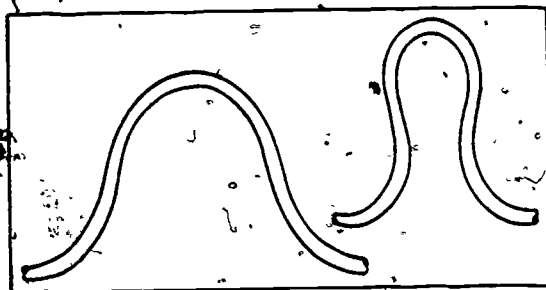

Figure 3-5. Expansion loops.
**Expansion loops.** Expansion loops are installed in copper tubing water supply systems to allow for vibration, and expansion and contraction due to temperature changes. Two examples of expansion loops that are made with tube benders are shown in figure 3-5.